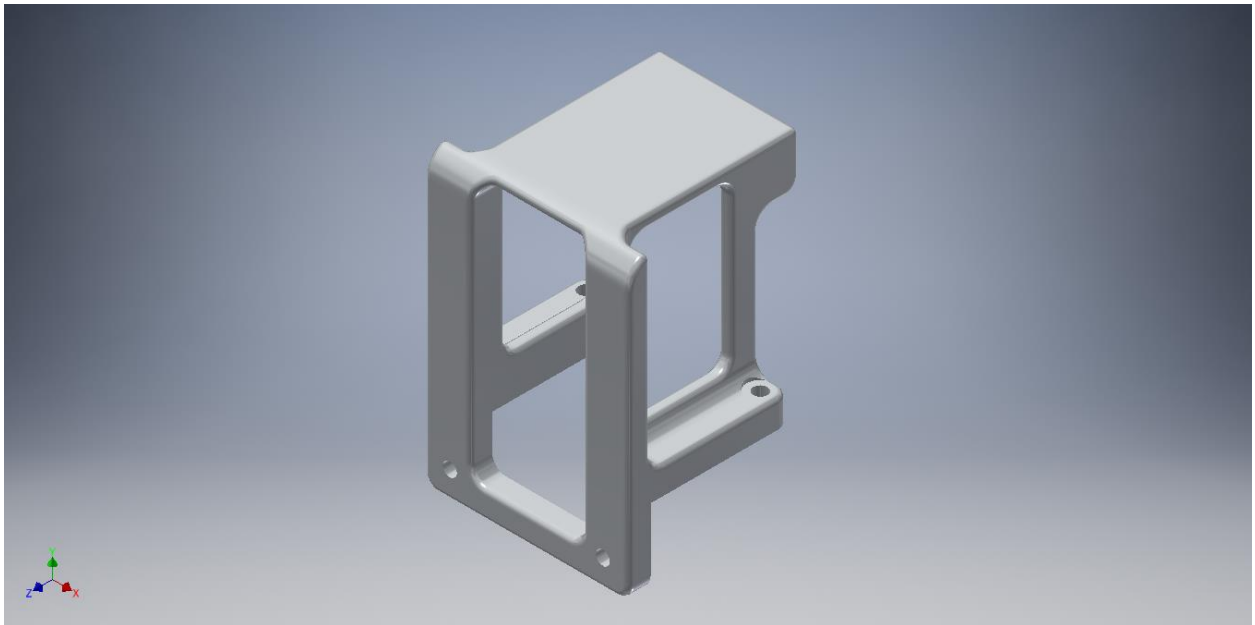

Figure 4 Camera Mount
3. You should end up with the tire and rim looking like Figure 4.